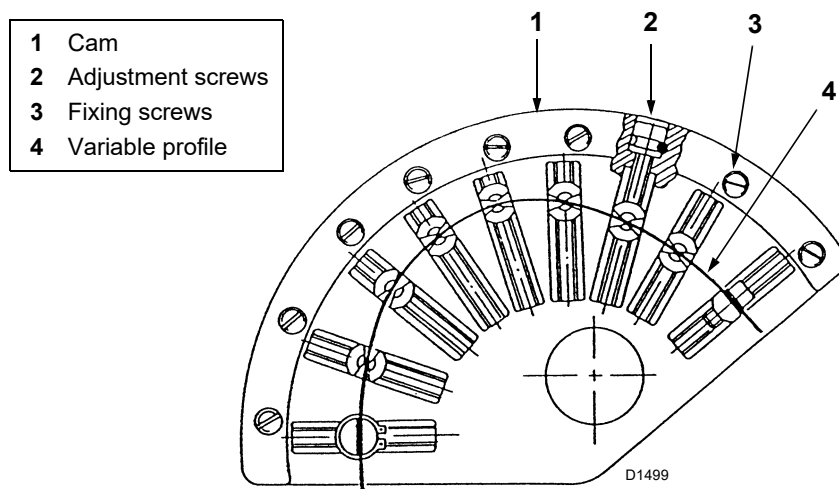

Fig. 26
When setting the air/fuel ratio for the gas burners, the air and gas variable profile cams must be used, Fig. 26.
Slowly increase the output, checking it does not exceed the maximum gas delivery, taking the servomotor to 130° and make the first maximum setting to the air cam. At this point, adjust the pressure regulator to reach the maximum delivery required with the gas butterfly valves completely open (90°), or turn the screws (2) Fig. 26 on the gas cam profile and/or the gas train adjustment valve.
Vary the final profile of the air cam by turning the screws (2) Fig. 26. Do not turn just one screw, but turn those nearby as well, so that the cam curve is progressive.